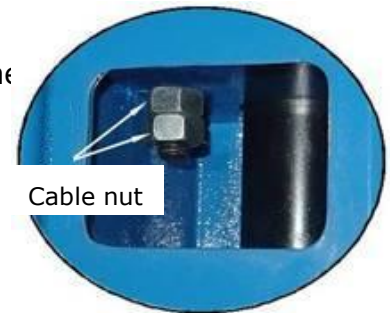

Fig. 40
1. Adjustment of synchronous cable (See Fig. 40)